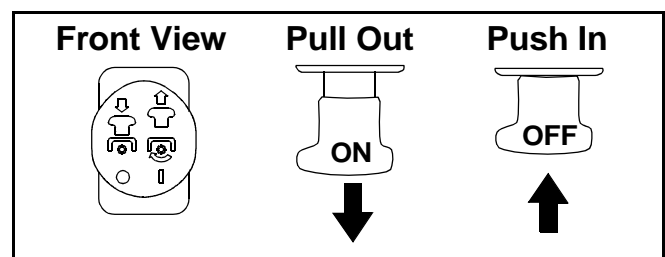

Figure 10
- Pull the PTO knob outward into the engaged (ON) position. See Figure 10.